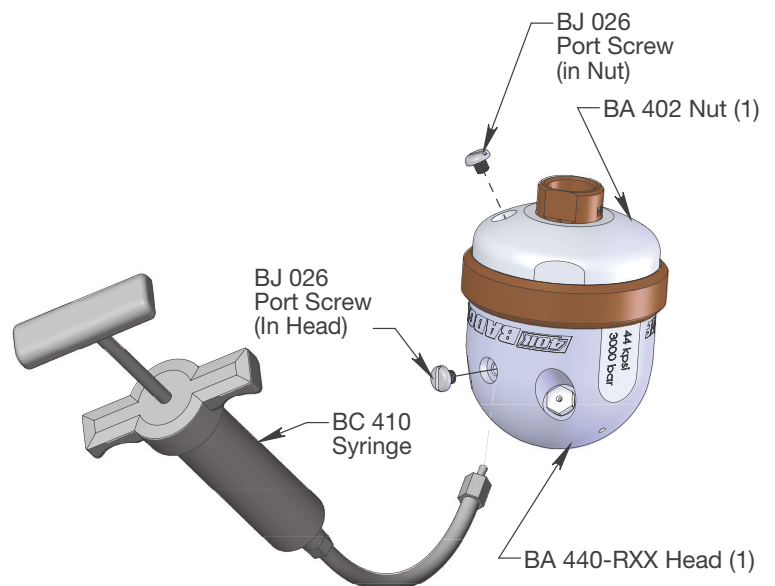

Figure 2: Viscous Fluid Flush
A significant increase in rotation speed means that the speed control mechanism in the tool has lost functionality. This can be a result of viscous fluid loss or fluid contamination. Operation of the tool in this state can cause damage to other components and accelerated wear of the high pressure seal. If this occurs, the first step is to flush the tool with new viscous fluid as shown in Figure 2.
1. Remove the Port Screws (BJ 026) in the Nut (BA 402) and Head (BA 440-RXX) (see Figure 2).